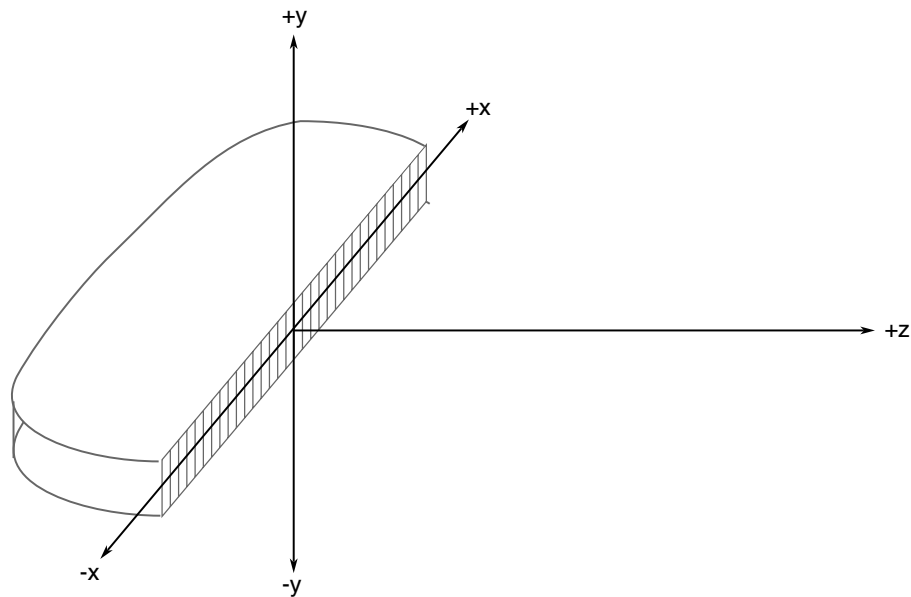

Fig. 2.2.1 Coordinate system for specifying linear array element positions.
**Trans.type:** This attribute is required to specify the geometry of the transducer. Linear arrays, where the center of the element positions can be specified with only x coordinates ( $y = z = 0$ ), are type 0. (See Fig. 2.2.1 below) Curved arrays, including ring arrays, where the center of the elements must be specified with x and z coordinates ( $y = 0$ ) and an azimuth angle (angle from the normal to the positive z axis), are type 1. For curved arrays, the origin is at the surface of the elements at the center position, and the curvature is in the x,z plane.